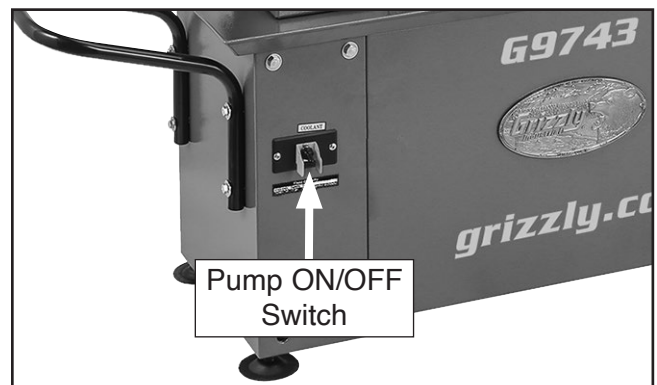

Figure 30. Location of pump ON/OFF switch.
- Use pump ON/OFF switch (see **Figure 30**) to turn coolant pump **ON**. Cutting fluid should flow through blade guides and onto blade.